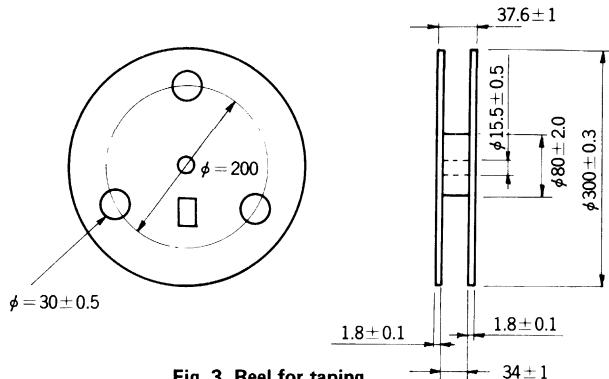

Fig. 3 Reel for taping
(2) Winding reel shape and dimensions (Fig. 3)